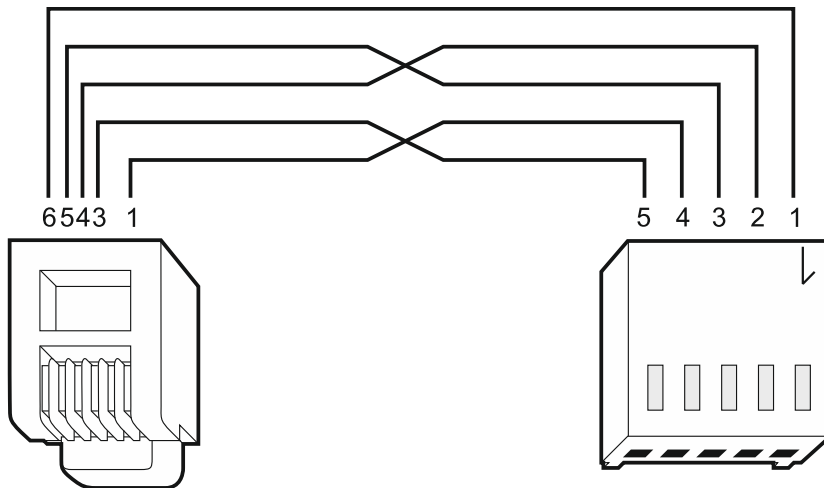

Fig. 4. Wiring diagram of the cable connecting RS-232 ports of ETHM-1 Plus module and INTEGRA / INTEGRA Plus control panel with RJ type connector socket.
- INTEGRA with connector socket of RJ / INTEGRA Plus type: **RJ/PIN5** (Fig. 4)